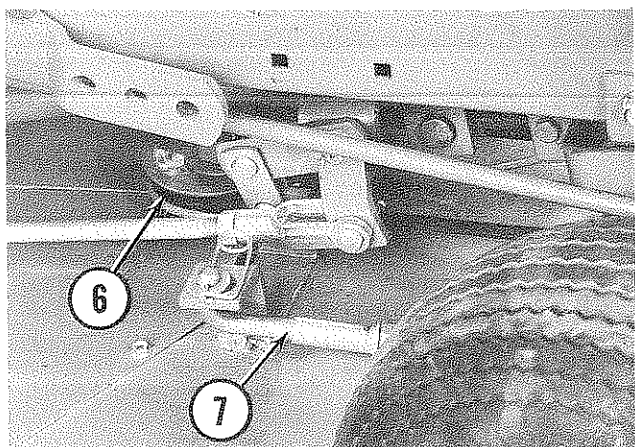

Figure 14. Installing Drive Belt and Right Hand Hanger Link
6. Turn the adjusting crank clockwise until the drive belt can be placed on to the mower deck pulley without stretching, Figure 14.
7. For shipping purposes the "L" shaped, right hand hanger link, Figure 14, is installed with the drilled end through the mower deck attaching bracket. Remove this rod, insert the shoulder bushing up through the slotted hole in the same deck attaching bracket and place the threaded end of the rod down through the bushing. Start the locknut part way on to hold the rod in position.